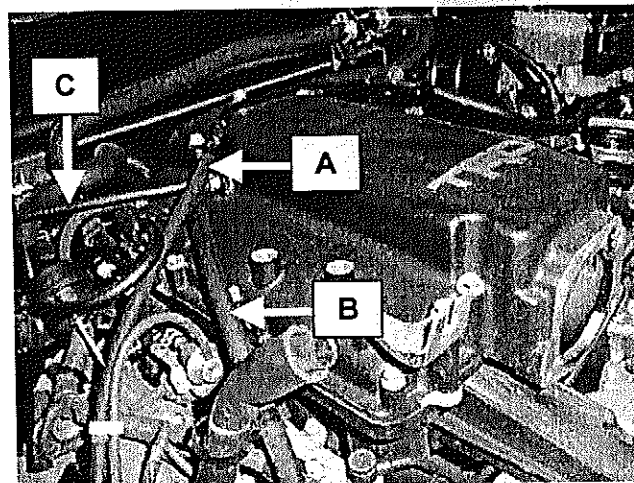

Figure 6
- EVAP VSV hose (Figure 6, Arrow A).
- Power steering idle-up vacuum hose (Figure 6, Arrow B).
- By-pass actuator vacuum diaphragm hose (Figure 6, Arrow C).